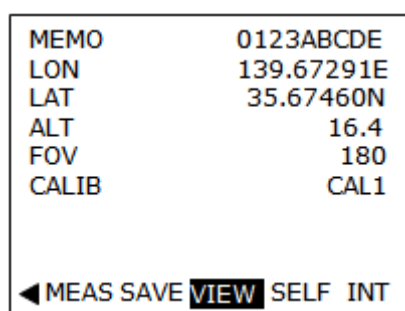
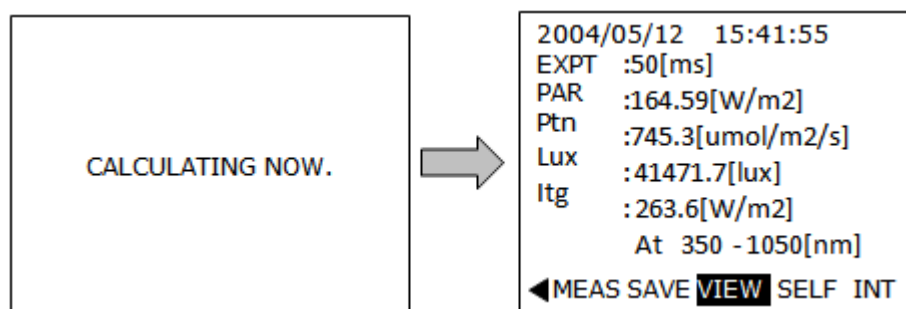

Figure 6-8. View Screen (Page 1)
Figure 6-9. View Screen (Page 2)
The information setup in the section [6-2. MS-720E Setup], [3. SYSTEM Setting] are displayed. (Figure 6-8).
- (2) Select [VIEW] again in View Screen.
- (3) Measurement time, [EXPT] (exposure/shutter opening time), PAR, Photon, Lux and the integral spectral irradiance in the specified spectral range (Itg), which were setup in the section [6-2. MS-720E Setup], are displayed (Figure 6-9). It takes approximately 3 seconds to calculate the contents on Page 2 (Figure 6-9).
- (4) To go back to Spectral Data Display Screen, press the center of tact switch at View Screen (Figure 6-9).
[MEAS] and [SELF] functions are also available in View Screen (Figure 6-8). When the measurement is performed in View Screen (Figure 6-9), the same screen is displayed again after the calculation.